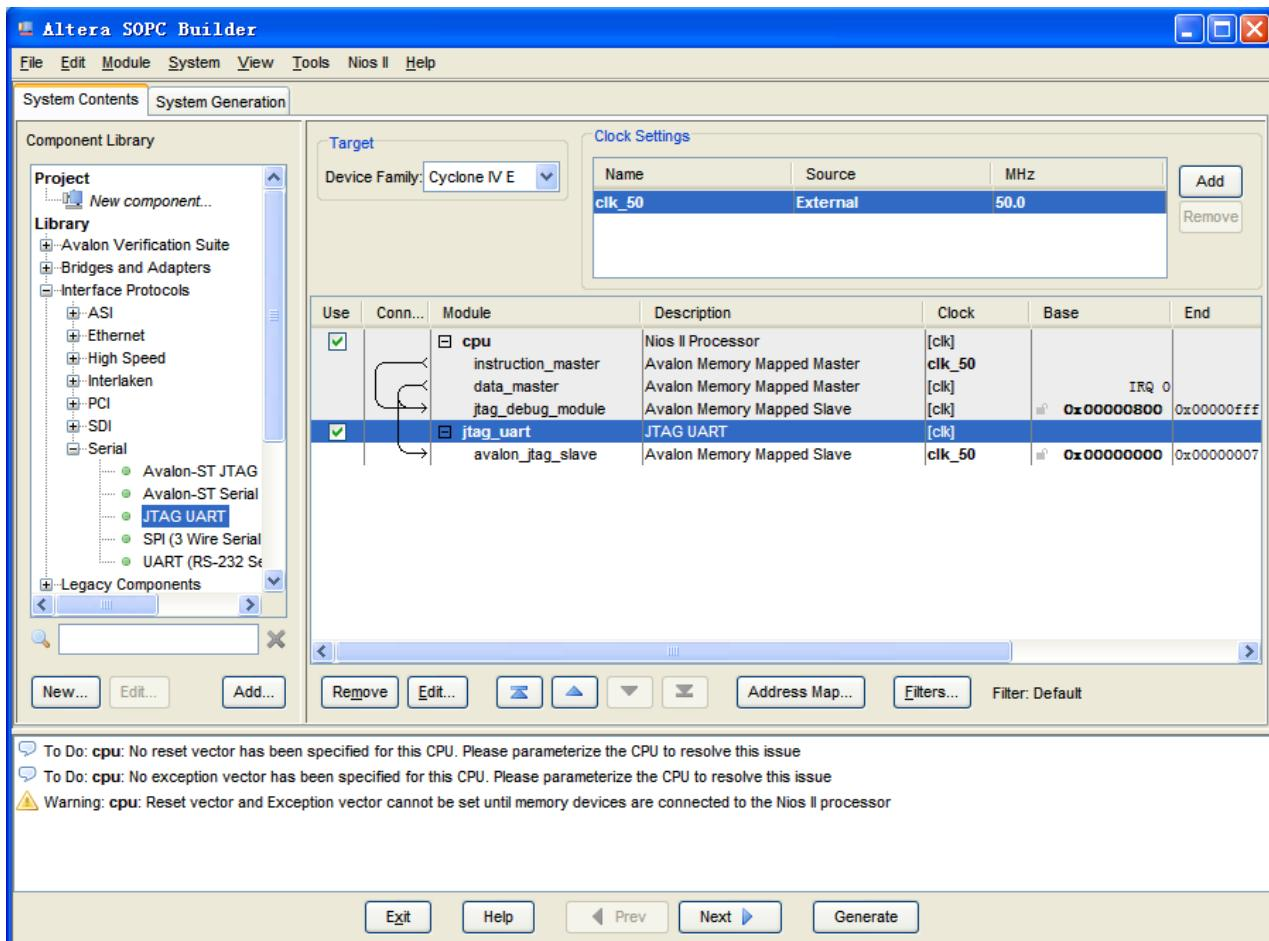

Figure 7-22 Rename JTAG UART
13. Select the **jtag\_uart\_0** component and rename it to **jtag\_uart** as shown in **Figure 7-22**.